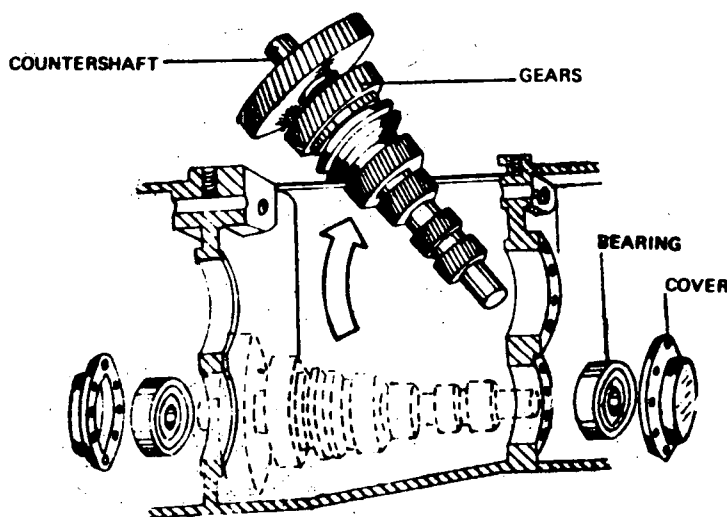

Fig. 6
- 8th Step - *Remove the countershaft (Fig. 6).*